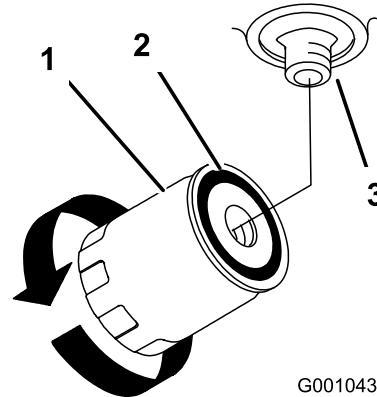

**Figure 72**
4. Remove the righthand hydraulic line that comes into the adapter (Figure 72).
6. Install the righthand hydraulic line to the adapter (Figure 72).